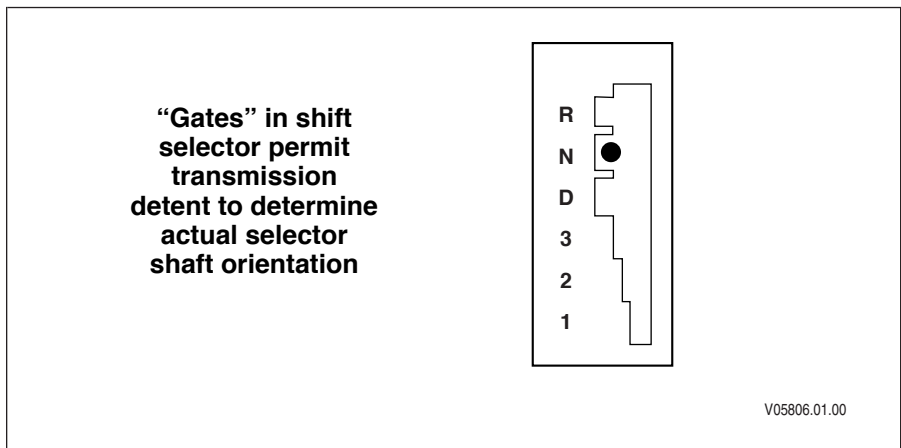

Figure 3-1. Proper Shift Selector Cable Adjustment
a. **Adjustment.** The transmission internal detent lever and spring must dictate the position of the manual selector valve in the control valve body. Any customer-furnished shift selector system must be designed and adjusted to accomplish this positioning. The shift selector must move the internal detent lever from position to position and not interfere with the ability of the internal detent spring to position the manual selector valve. When the internal detent spring is in the center of a detent lever position, the shift selector handle should be in the center of the shift selector gate (refer to Figure 3-1). Follow the procedure below to adjust the shift selector cable at the shift lever on the transmission.